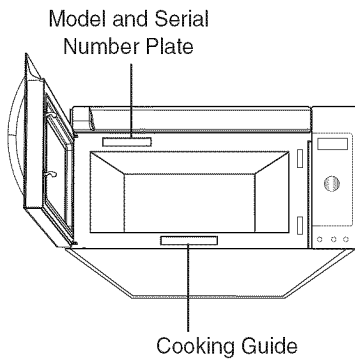

Figure 1
- The model number label is located on the oven front. See **Figure 1**.